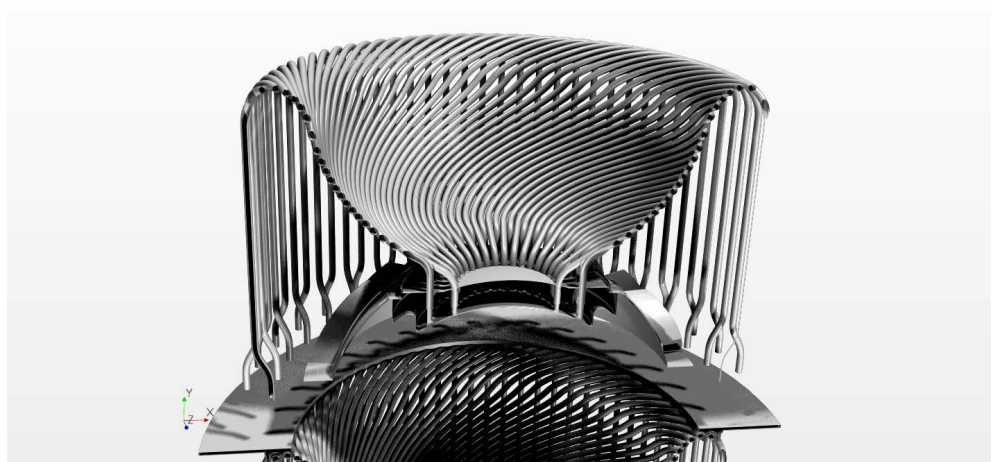

Figure 1: Newly developed Gen 3 hot heat exchanger.
The more heat that can be transferred to the helium gas inside, the higher the overall efficiency (figure 1). It is critical to
- Total heat transfer into the helium was too low to meet performance targets. A more complex tubular heat exchanger has been developed (figure 1)